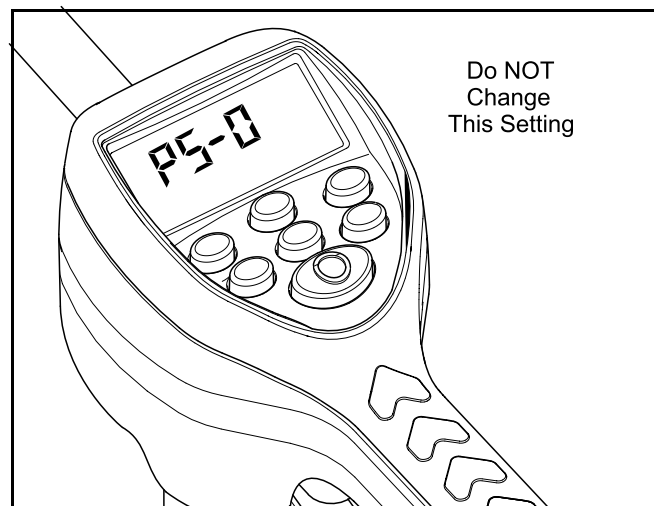

Figure 6 Pulse Delay Factor Screen
- The pulse delay factor (PS) screen appears.
- See **Figure 6**.